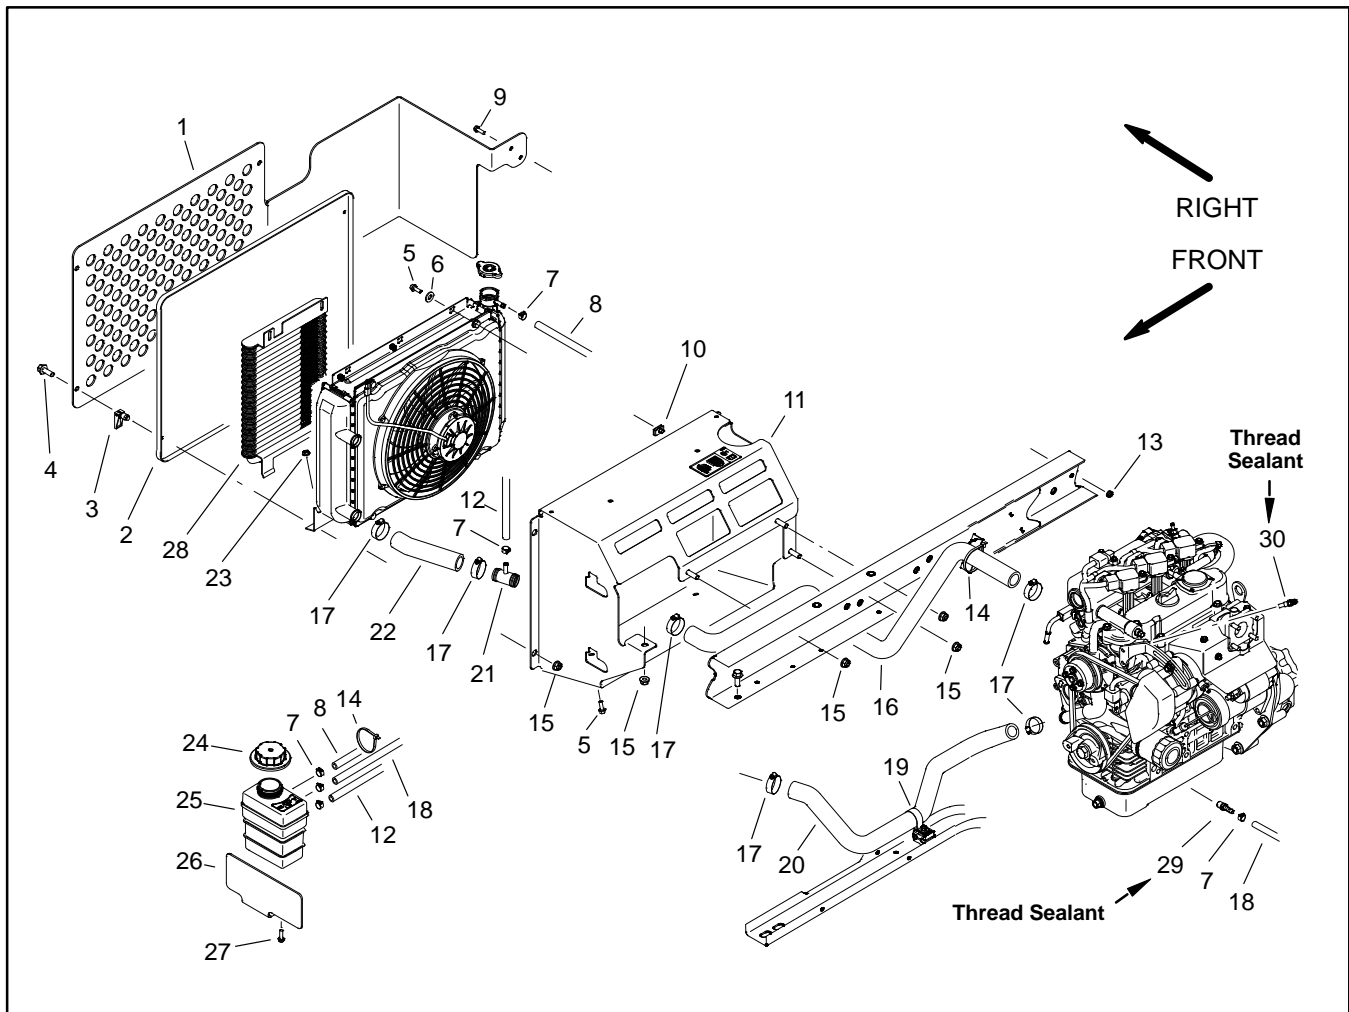

Figure 12
## Removal (Fig. 12)
## Installation (Fig. 12)
A. Positive (+) battery cable, fusible link harness and harness ring terminal from starter solenoid stud (Fig. 12).